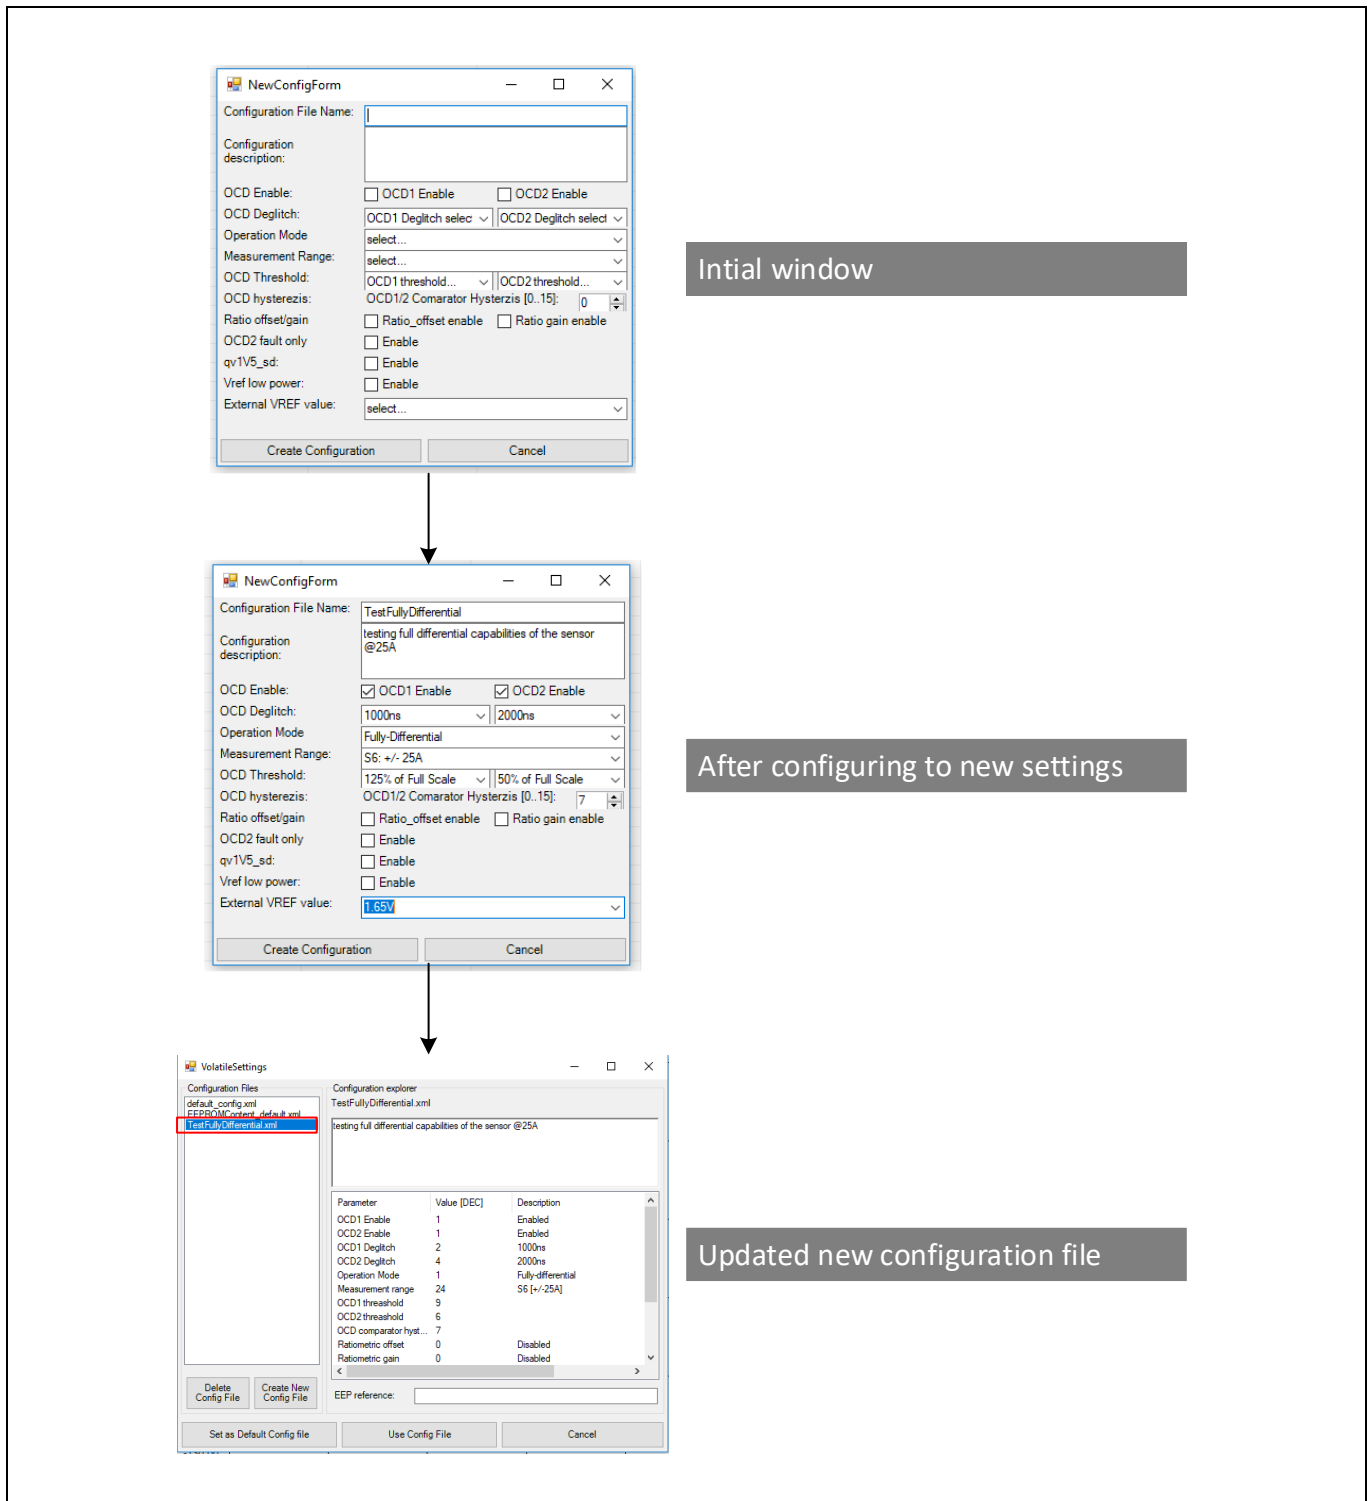

**Figure 19 Volatile Settings Window**
When the user selects the ‘VolatileSettings’ menu item, the window shown in Figure 19 will open, here, initially the user will find the existing configuration file which is “EEPROMContent\_default.xml”. This file is automatically generated by the Software (SW) based on the preprogrammed EEPROM settings in the sensor. This main window components are described as follows.
- “Configuration Files” pane list (see ‘1’ in Figure 19) all configuration files are automatically stored under Users/<CurrentUser>/AppData/Local/InfineonCurrent2GoTemp\ConfigFiles. All XML files at this location will be parsed by the SW and checked if it is a valid sensor configuration.
- “Configuration Explorer” pane (see ‘2’ in Figure 19) displays the parameters stored by the configuration file (name, description, sensor parameters).
- “Delete Config File” (see ‘3’ in Figure 19), by pressing this button, the configuration file will be physically deleted from the disk and from the list.
- “Create New Config File” (see ‘4’ in Figure 19), by pressing this button, a new window will pop-up allowing the user to create a new configuration file which has shown in Figure 20.
- “Set as Default Config file” (see ‘5’ in Figure 19), by pressing this button a new configuration file – as copy of the selected one, named “default\_config.xml”. If this configuration is found at startup, it will be automatically loaded into the sensor RAM.
- “Use Config File” (see ‘6’ in Figure 19), by pressing this button, the configuration parameters will be set into the RAM of the sensor.